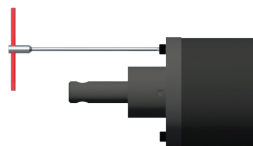

Figure 47
4.3.3 Screw 4" cutter to adaptor and lock in place with cutter hardware (see Figure 47).